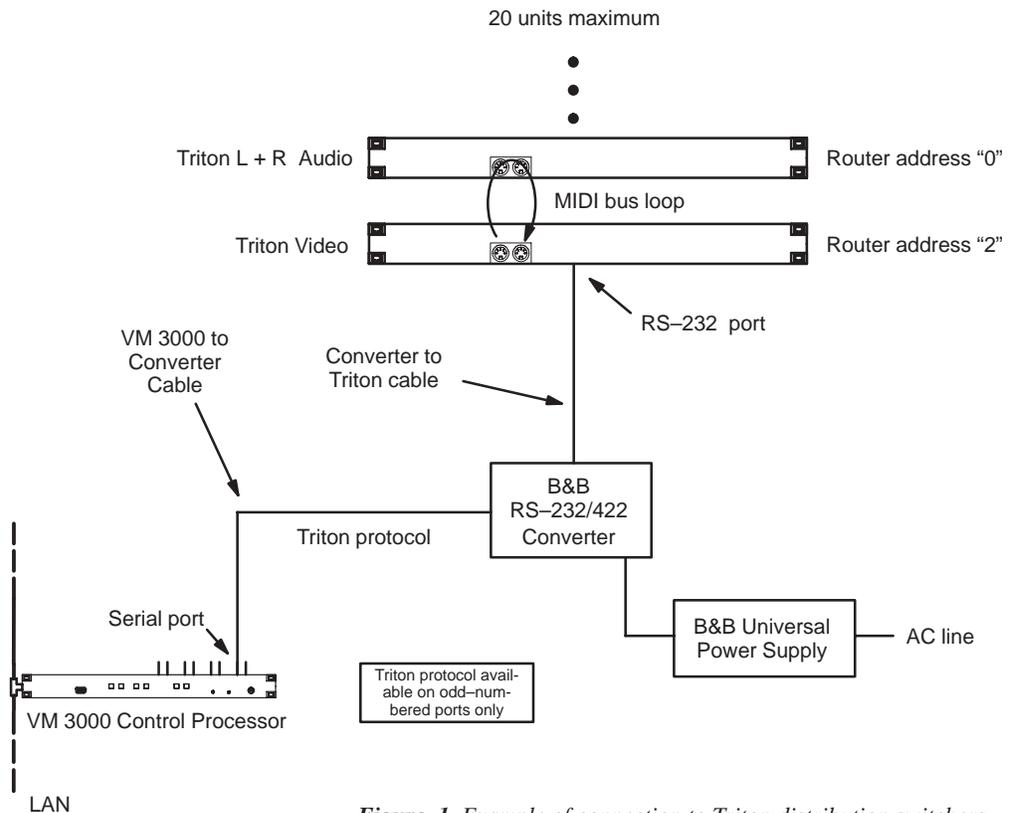

Figure 1. Example of connection to Triton distribution switchers.
5. Connect the *VM 3000 to Converter Cable*, part number 01-050452-001, to an odd number serial port on the VM 3000. See Figure 1.